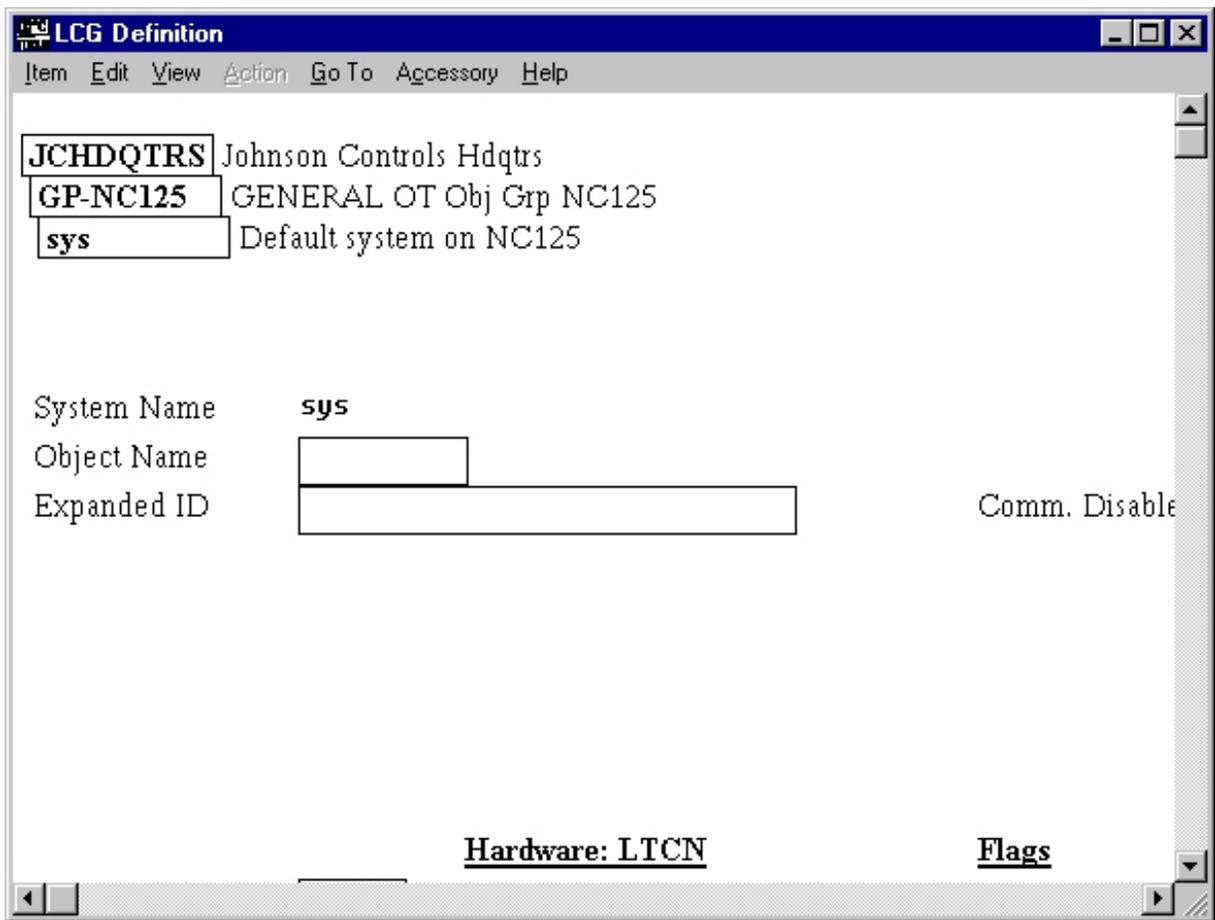

Figure 10: Lighting Control Group Definition Window
Timed ON turns on the outputs associated with this object for a specified amount of time (up to 99 hours). If no time is entered, the group remains on for the value shown in the Override Default Delay attribute field of the Lighting Control Group Definition window (see Figure 10).
5. Click OK. The LCG definition window appears (Figure 10). Some of the fields in this window are blank, while others have default values already entered in their text boxes.